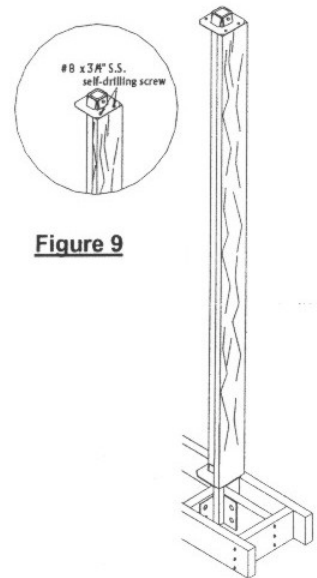

Figure 9
7.) Measure the distance between the top of the bottom plate and the bottom of the top plate. Cut 1" x 4" (Actual 3/4" x 3-1/2") treated wood for backing. Fasten wood as in Figures 9, 10 and 11. Leave the bottom loose to accommodate sleeving the post mount after the backing is in place.
(Figure 9)